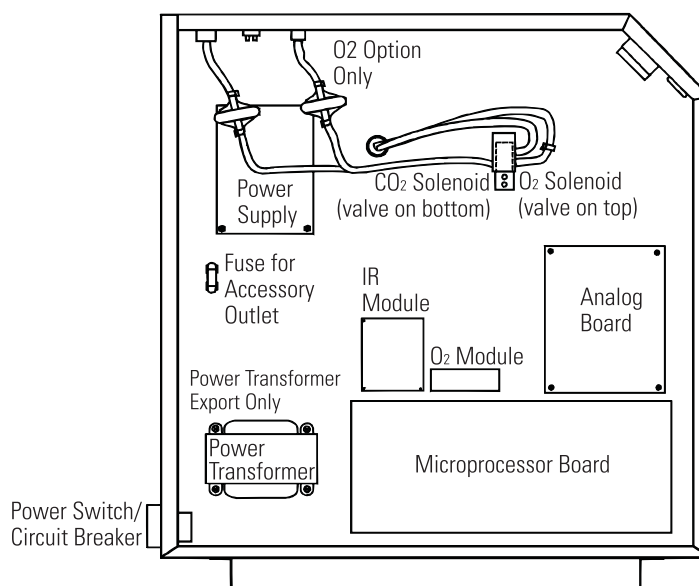

Figure 5-6. Electronics Drawer
There are two fuses on the main microboard labeled F1 24 VAC Door Heater and F4 24 VAC Collar Heater. Refer to Figure 5-6 for the location of the main microboard. Remove the fuse and replace it with a new one of the same specification. Refer to Table 5-1.
The other replaceable fuse is the accessory outlet fuse mounted to the floor of the electronics drawer. To locate the fuse, refer to Figure 5-6. Remove the fuse and replace with a new one of the same specification.
There is one fuse in the incubator that is not replaceable. This fuse is intended for catastrophic failure only and is located on the power supply circuit board in the electronics drawer. See Figure 5-6. If this fuse is blown, the power supply must be replaced. Contact the factory for more information.
20. Slide the electronics drawer back in, being very careful to place the door heater cable back into the provided slot so that the drawer does not pinch the cable. See Figure 5-6. Secure the electronics drawer with the screws removed above.